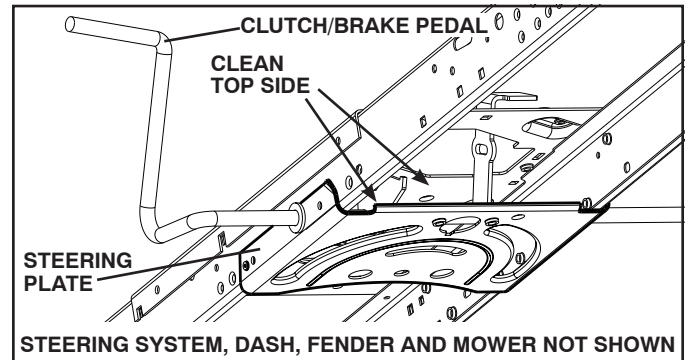

Fig. 45
- Clean debris from steering plate. Debris can restrict clutch/brake pedal shaft movement, causing belt slip and loss of drive. See Fig. 45